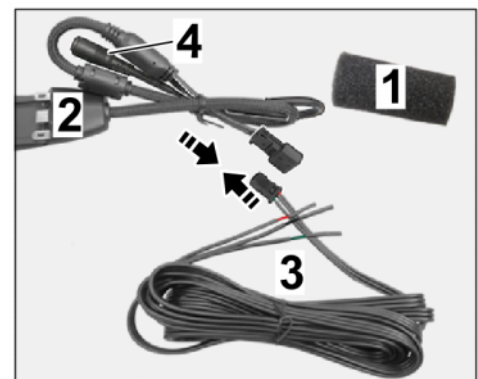

Figure 12
3.1.2 Connect plug connection (3-pin) (⇒ Figure 12 -**Arrow**-).